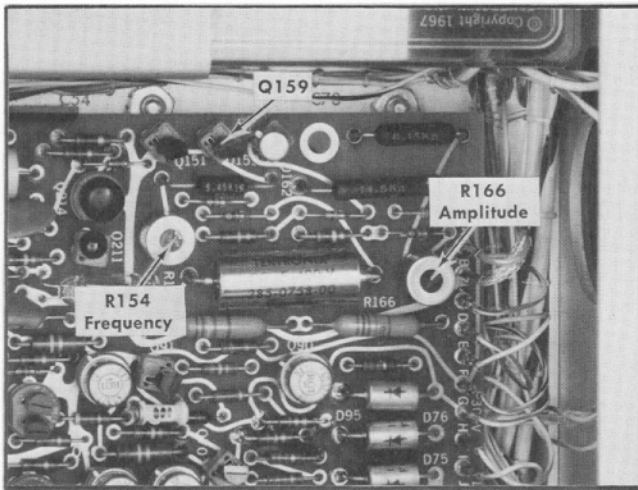
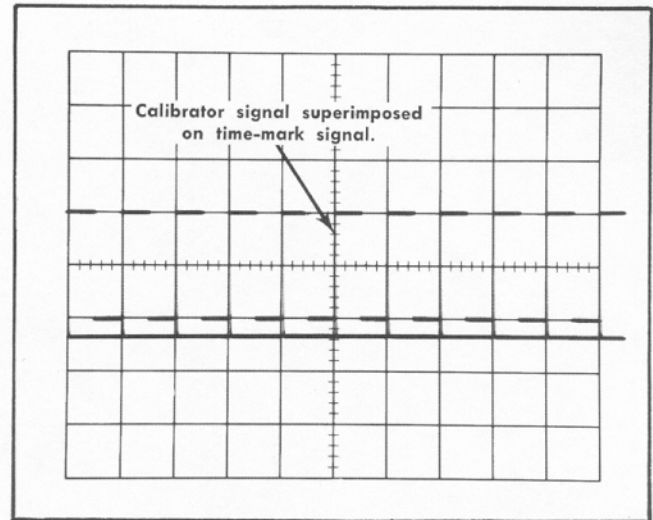

Fig. 5-16. Location of Calibrator controls.
Fig. 5-17. Typical CRT display showing correct calibration repetition rate.
c. **ADJUST**—R166, Amplitude (Fig. 5-16) for a meter reading of exactly +40 volts.
d. Remove Q159 (Fig. 5-16) and check the remaining calibrator voltages as listed in Table 5-2. Connect a 50-ohm termination to the CAL OUT connector when checking the 0.2 V, 20 mV and 2 mV positions of the CALIBRATOR switch.
CHECK—One cycle of calibrator waveform for each marker (see Fig. 5-17). The error in 10 major divisions must be ≤ 0.5 minor divisions (the positive transition of the square wave at the right hand edge of the graticule must be no more than 0.5 minor divisions (1 mm) from the positive transition of the corresponding time marker). **Disconnect the time-mark generator and proceed to step 20.**
g. ADJUST—R154, Frequency (Fig. 5-16), for one cycle of calibrator waveform for each marker. See Fig. 5-17. (Since the sweep was calibrated in step f, the display should also be one cycle of calibrator waveform for each major division).